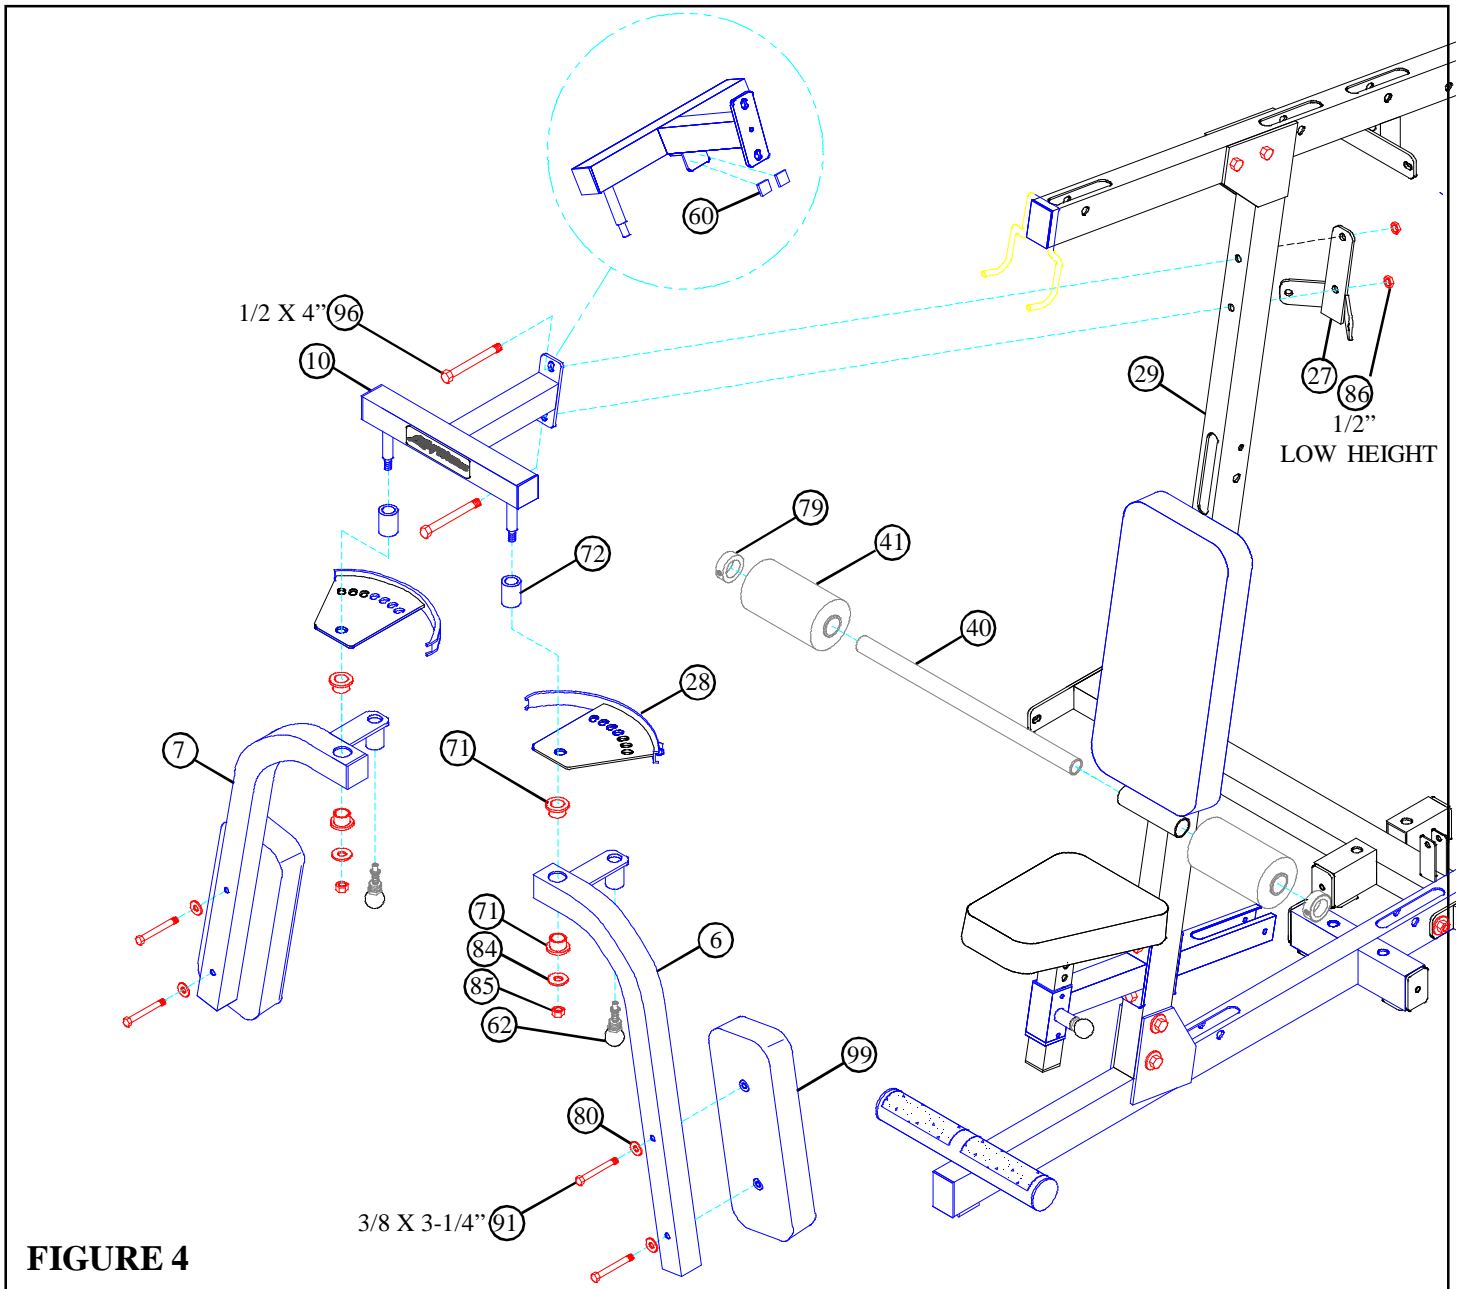

**FIGURE 3**
- **SECURELY** assemble the FLOATING PULLEY STOP (11) and the SEAT SUPPORT (12) to the FRONT UPRIGHT (29) using two 1/2 X 4" BOLTS (96) and two 1/2" LOW HEIGHT LOCK NUTS (86) as shown in FIGURE 3.
- **SECURELY** assemble one 3/8 X 2-3/4" SPRING PIN (62) to the SEAT SUPPORT (12) as shown in FIGURE 3.
- **SECURELY** assemble one PEC SEAT PAD (104) to the PAD SUPPORT (13) using two 3/8 X 1-1/4" BOLTS (88) and two 3/8" WASHERS (80) as shown in FIGURE 3.
- **CAREFULLY** insert the PAD SUPPORT (13) into the SEAT SUPPORT (12) and engage the SPRING PIN into one of the holes.
- **SECURELY** assemble one PEC BACK PAD (105) to the FRONT UPRIGHT (29) using two 3/8 X 4" BOLTS (92) and two 3/8" WASHERS (80) as shown.